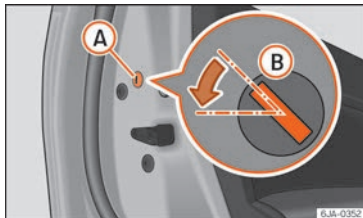

Fig. 6 Rear door: emergency lock.
- Remove the cap **A** » » » **Fig. 6**.